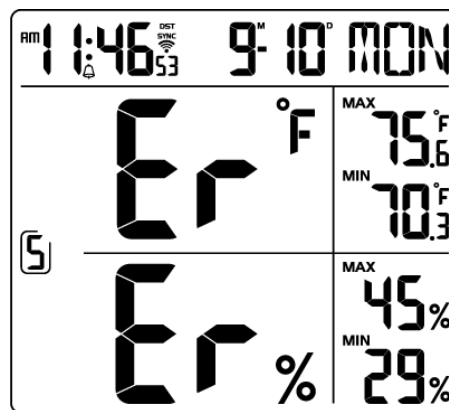

Figure 18
2. If the signal for a specific channel has discontinued and does not recover within 15 minutes, the temperature and humidity will display “Er” for the corresponding channel, as shown in Figure 18.